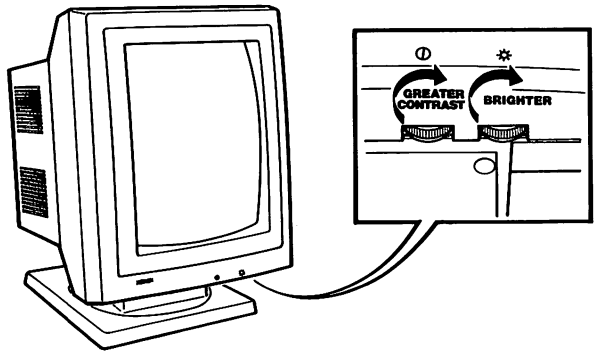

Figure 5-8A. Location of brightness and contrast controls on the full-page display
- If you have a full-page display, they will be located at the front of the unit, as shown in Fig. 5-8A.